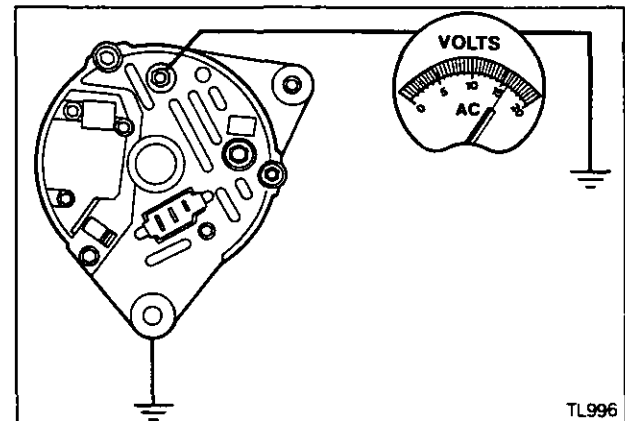

Figure 8
TEST 7. Checking tachometer phase voltage and frequency (Figure 8)
3. Connect the voltmeter across the tachometer terminal and earth. See figure 8.